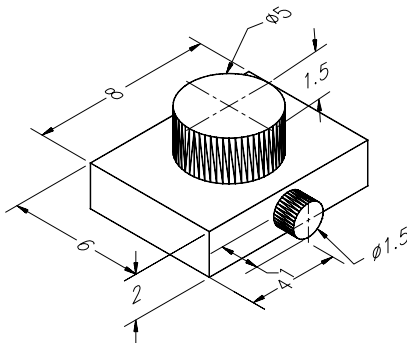
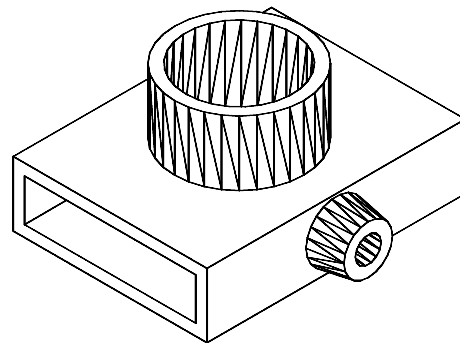

Figure 28-9 Model for Example 1
Figure 28-10 Model after modification
In this example, you will create the solid model shown in Figure 28-9. After creating the model, modify it, as shown in Figure 28-10, using the options in the **Solid Editing** panel.
1. Create a box and two cylinders at appropriate position, refer to Figure 28-9.
5. The final model should look similar to the one shown in Figure 28-10.